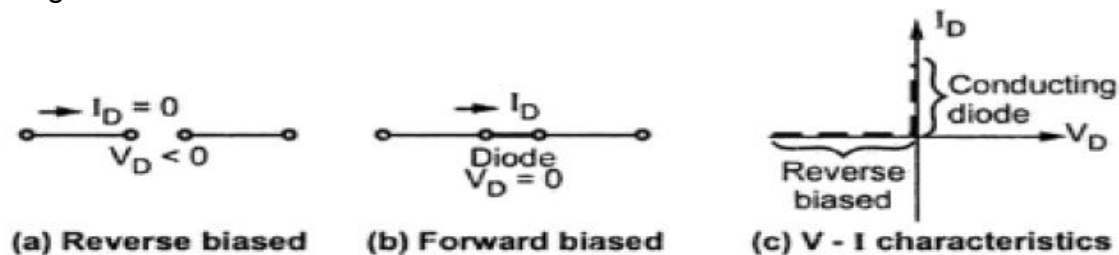

Fig. 1.18 Ideal diode model
- The Fig. 1.18 shows the ideal diode characteristics.